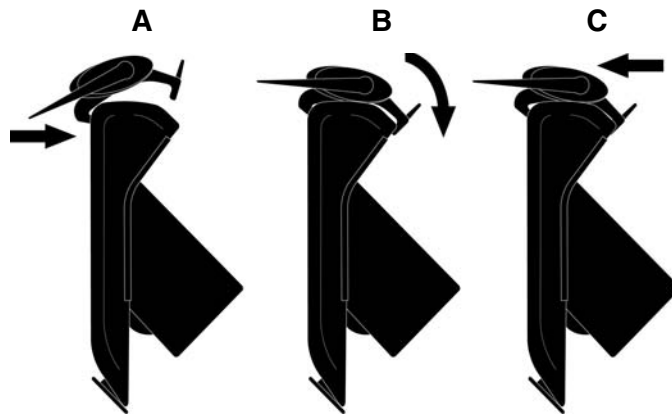

FIGURE 9
2. Insert front Squeegee tab into front Fabric Steamer slot as shown (FIGURE 9-A).
3. Tilt Squeegee back as shown (FIGURE 9-B), so that rear tab fits into rear Fabric Steamer slot.
4. Finally, push Squeegee forward as shown (FIGURE 9-C), to secure it onto Fabric Steamer.